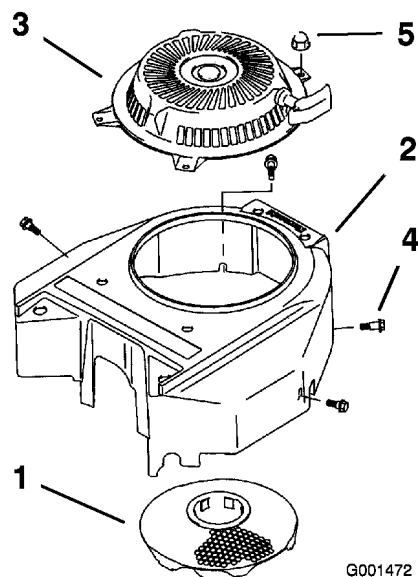

Figure 45
3. Remove the air intake screen, recoil starter and fan housing (Figure 45).
5. Install air intake screen, recoil starter and fan housing (Figure 45).